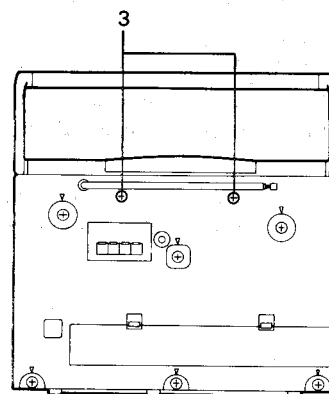

Fig. 7-3
■ CD Player Assembly (refer to Fig. 7-3, 7-4)
1. Turn the body backward and remove the two screws ③ retaining the CD player assembly.
2. After putting the hand onto the right and left back side (A), (B) of the CD case retaining the system microcomputer P.C. board, draw out and dismount the case to the front side.